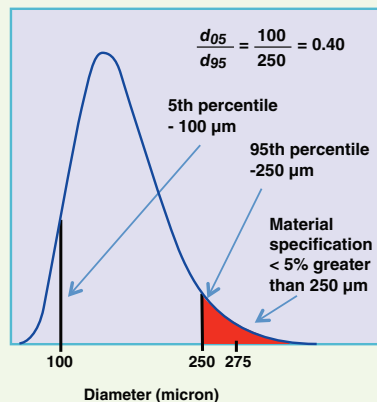

FIGURE 1. Example of size distribution with information necessary to calculate minimum sample mass
After several customer complaints, an engineer is assigned the responsibility of setting up a sampling protocol for a ground product that frequently does not meet the specification that no more than 5% of the mass, or volume distribution should be greater than 250 microns (Figure 1). This product is sold in lots consisting of several tons. This specification should be measured at the 99% confidence level. This product has a density of 2.5 g/mL. Assuming that correct sampling techniques were used to obtain a random sample, what is the minimum sample size that needs to be collected and analyzed?
2. Measure the size distribution on a volume, or mass basis to obtain the diameters corresponding to the 5th and the 95th percentile (Figure 1)
3. The 99% confidence level implies that the value of FE is 0.01. The variance of the fundamental error, $\text{Var}(FE)$, is 0.01², or 0.0001. The shape factor (f) can be set at 0.5, assuming that the particles can be approximated by spheres. The particle density (ρ) is 2.5 g/cm³. The fraction of material in the size class of interest c_L is 0.05 (5% > 250 microns). The average diameter in the size class of interest (d_1) can be taken as 275 microns (see Figure 1). The granulometric factor (g) is defined as d_{05}/d_{95} (see Figure 1) is 0.40 for this distribution. Finally, d , defined as the 95th percentile (see Figure 1) is 250 microns. Changing all units to CGS units to obtain the sample mass (M_s) in grams, we obtain the following: